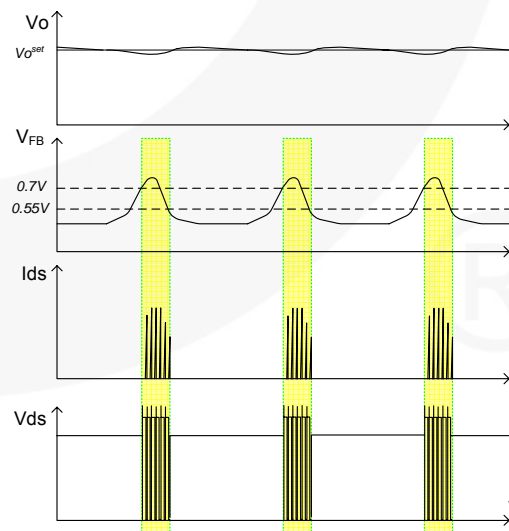

**Figure 20. Internal Soft-Start**
**5. Soft-Start:** The FPS has an internal soft-start circuit that slowly increases the feedback voltage with the SenseFET current right after it starts up. The typical soft-start time is 15ms, as shown in Figure 20, where progressive increment of the SenseFET current is allowed during the start-up phase. The soft-start circuit progressively increases current limits to establish proper working conditions for transformers, inductors, capacitors, and switching devices. It also helps to prevent transformer saturation and reduces the stress on the secondary diode.